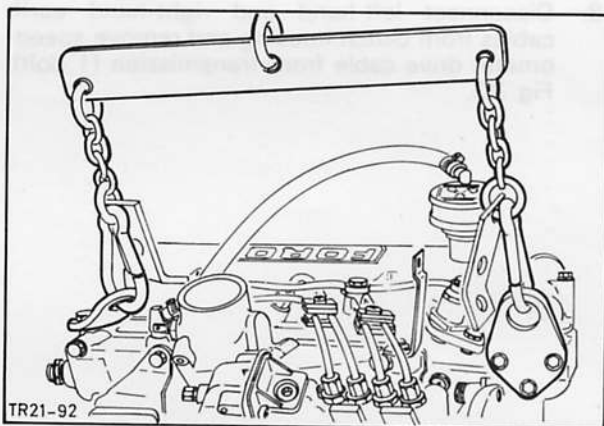

Fig. 26. Fit engine lifting eyes and lifting chain
21. Attach engine lifting eyes 21-026/27 to engine, Fig. 26 and fit engine lifting appliance G2-6000 with engine lifting eye G1-6000.